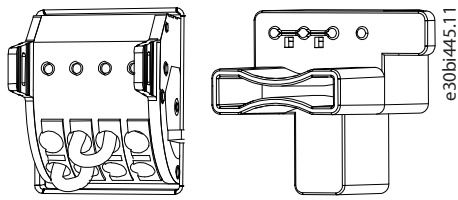

Figure 6: Wired Terminal Block (on the Left) and STO Jumper Clip (on the Right)
1. If the STO safety function is not needed, wire the terminal block as shown in Figure 6, or use the STO jumper clips from the accessory bag and mount them on X31 and X32. This ensures that both STO inputs are energized with 24 V DC for enabling normal operation.